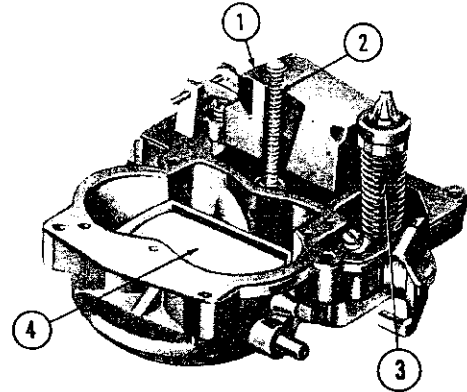

FIG. E-22—AIR HORN BODY
- b. Place air horn body in inverted position on bench. Remove float hinge pin and lift float assembly from cover. Remove inlet valve needle from float arm. Remove needle seat, fiber gasket and seat screen from air horn body; discard gasket. See Fig. E-22.